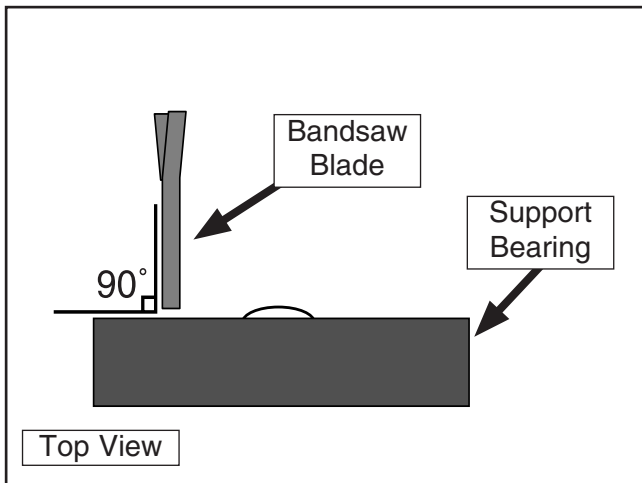

Figure 28. Blade should be perpendicular (90°) to the face of the support bearing.
4. Loosen the guide block assembly cap screw and rotate the blade guide assembly side-to-side, until the blade is perpendicular with the face of the support bearing as illustrated in **Figure 28**.
4. Check to make sure the guide block assembly is perpendicular with the face of the support bearing as illustrated in **Figure 28**.